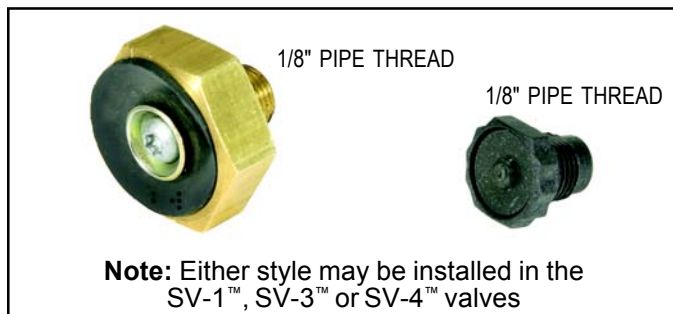

FIGURE 3 - EXHAUST CHECK VALVE STYLES
4. Pay particular attention to the exhaust check valve in the exhaust port if so equipped (note figure 3). Make certain it is free of contamination and the rubber valve is free to function. Replace this item as necessary.